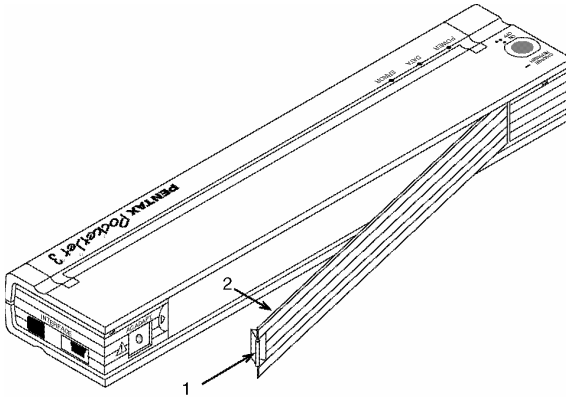

FIGURE 10. Opening the Battery Cover
1. Open the printer's battery cover by pressing the cover latch. Push the cover away from the AC adapter receptacle. See Figure 10.